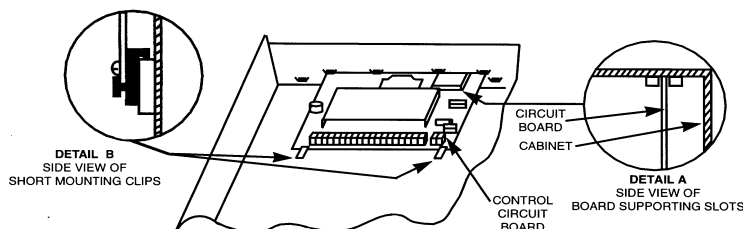

Figure 2. Mounting The PC Board
Mounting The Control's Circuit Board in The Cabinet (Fig. 2)
1. Hang two short Black mounting clips (provided) on the raised cabinet tabs (see Detail B in Fig. 2).
3. Swing the base of the board into the mounting clips and secure the board to the cabinet with the accompanying screws (see Detail B in Fig. 2).